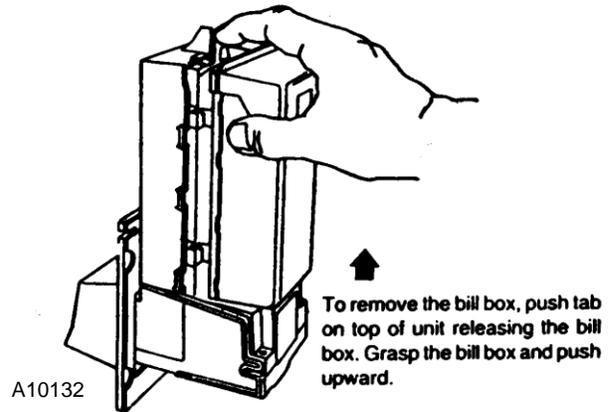

FIGURE 11. Removing Bill Box
2. Remove the retaining screw that secures the logic board and strain relief. see Figure 11.
Accepted bills may be removed by opening the "bill box" lid or by removing the bill box from the validator. See Figure 11. If the bill box is removed, **make sure that it is**